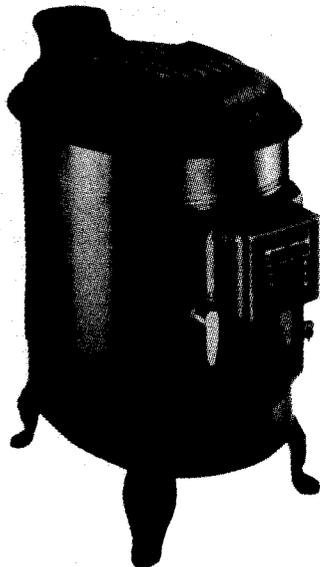

Fig. 68. Ashley Columbian 25HF radiant sheet-metal stove.
1. **Ashley Products Division** (manufacturer), Martin Industries, P.O. Box 730, Sheffield, AL 35660. Ashley offers an optional universal circulating blower, which attaches at the back and blows air around the sides of the stove toward the front. The Columbian 25HF holds 5.5 cubic feet of wood, the Carolinian 23HF holds 4.3 cubic feet. See Fig. 68 and Table 8. Discounts are available.